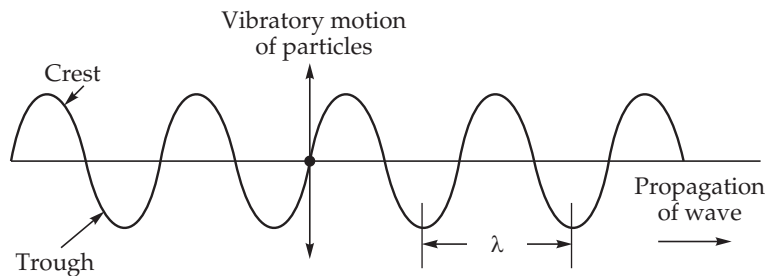

Fig. 1.7
(1) **Transverse Waves.** In these waves, the particles of the medium vibrate perpendicular to the direction of propagation of waves. See Fig. 1.7.